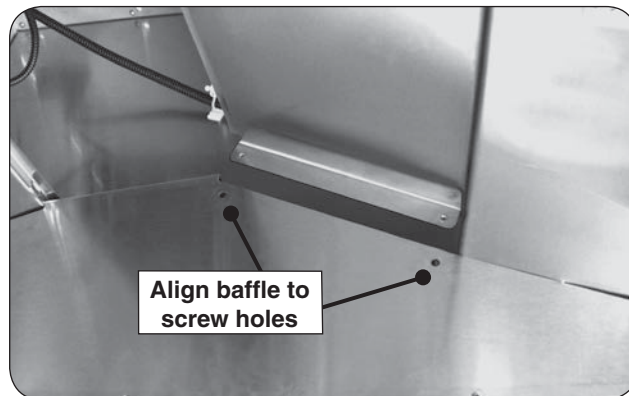

Fig. 20-1 Insert and align baffle
1. Carefully raise the baffle up into the vent hood. You will first need to slide one side in at a slight angle, until the baffle edge aligns above the inner wall (see Fig. 20-1). Then raise the opposite side of the baffle until it also aligns. Drop the baffle into place.